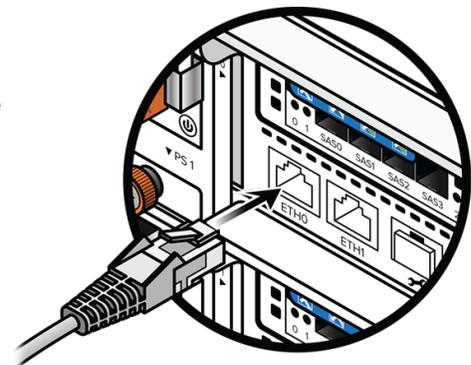

Figure 13-20. Connecting 1-GbE Cables
1. Connect the 1GbE management cable to the **ETH0** port on the controller. See Figure 13-20.